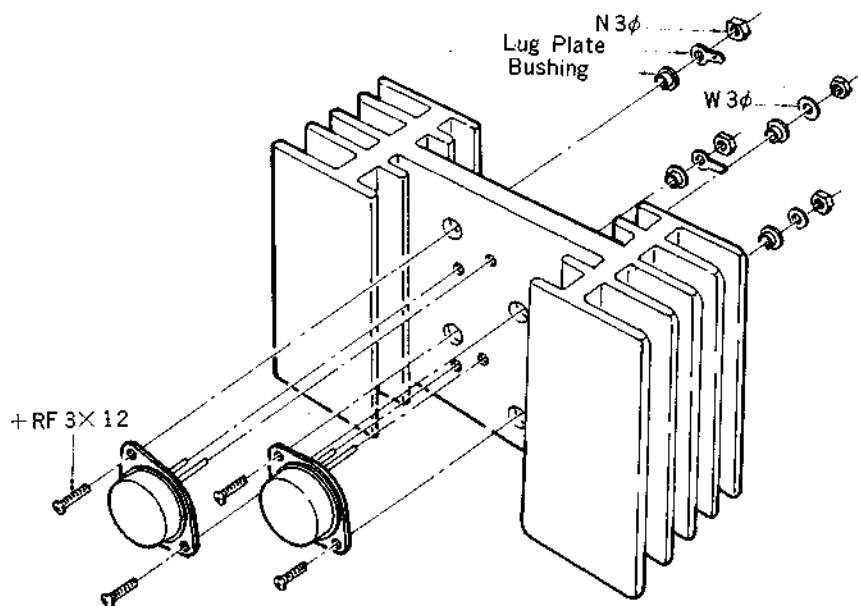

Fig. 2-8 Power Transistor Replacement
- (d) Remove the power transistor by loosening the two screws (+RF 3×12). See Fig. 2-8.